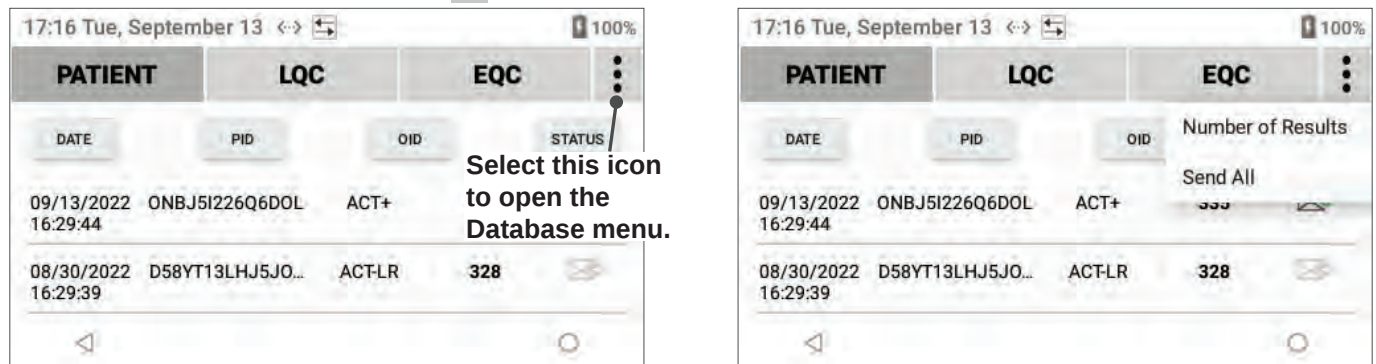

Figure 77: Database Menu
- 3 In the upper right corner, select  to open the **Database** menu (Figure 77).